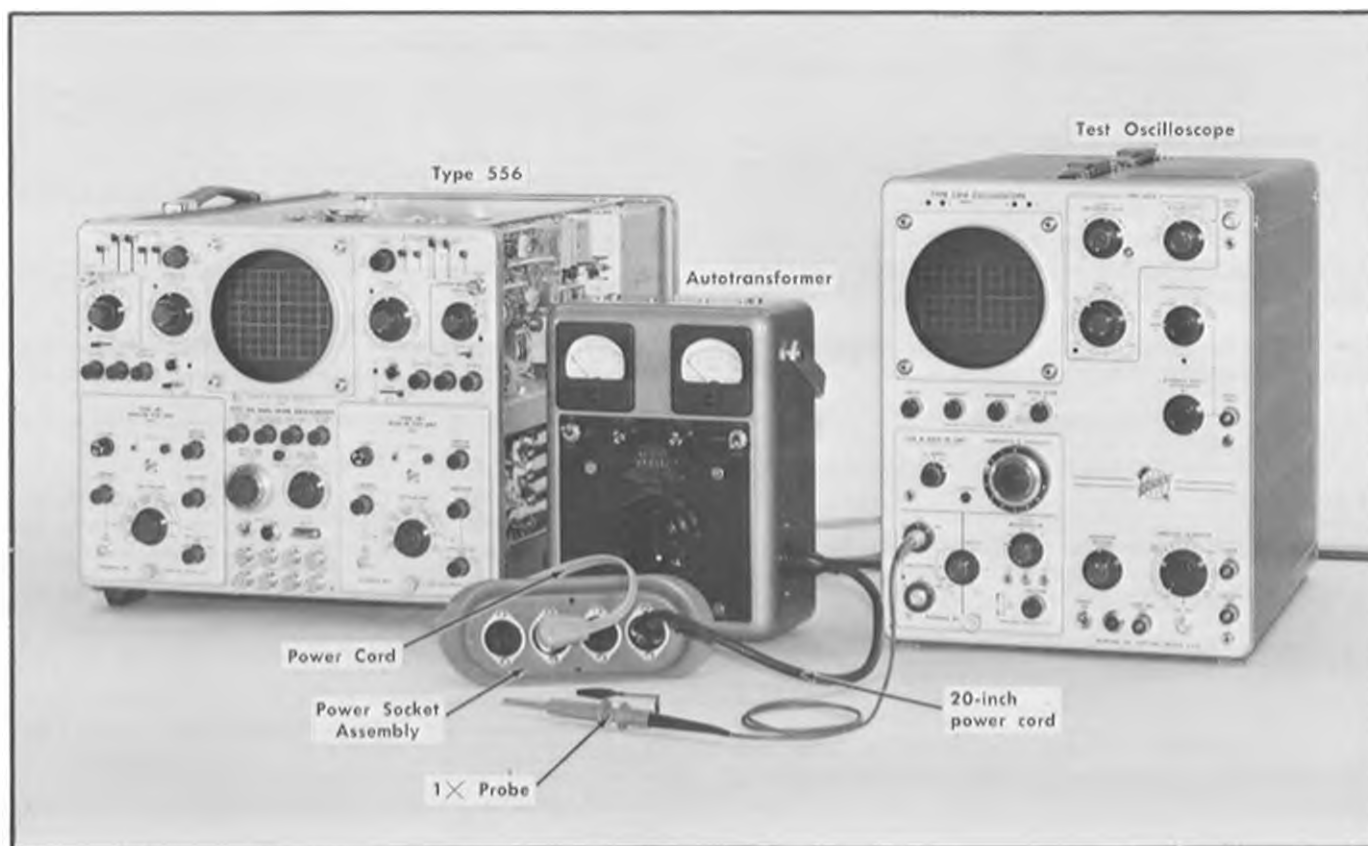

Fig. 6-23. Initial test setup for checking trace drift with line voltage change.
- The test setup is shown in Fig. 6-23.
c. Connect the 20-inch power cord between the autotransformer and the power socket assembly, and connect the Type 556 power cord to the power socket assembly, as shown in Fig. 6-23.